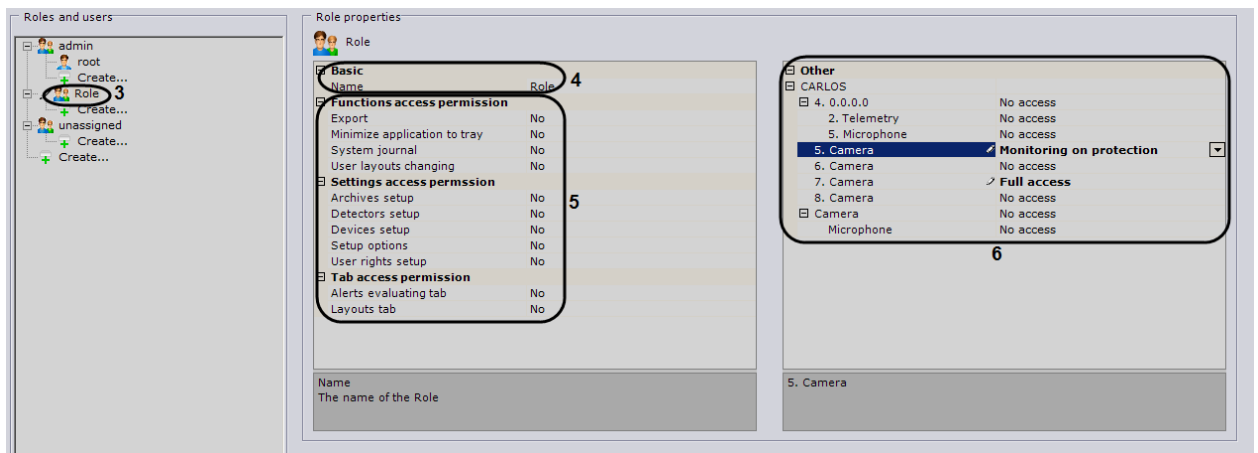

Fig. 6.10—2 User rights setup panel
4. Assign a name for the role in the **Basic** role properties (see Fig. 6.10—2, 5).